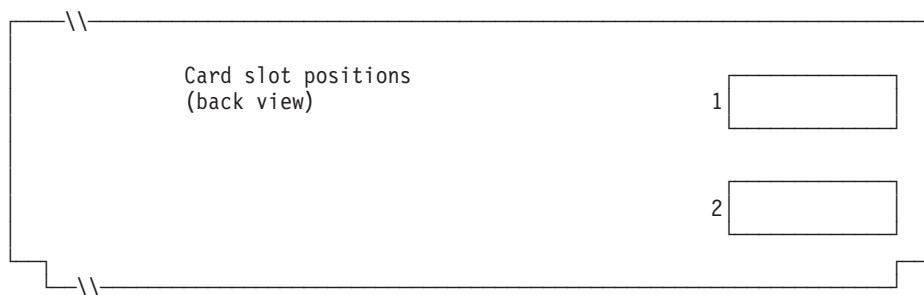

Figure 100. Rear of 4694-1x4/205 Controller/Terminal
4. Mark an X on Figure 100 in each card slot that has a Dual Asynchronous Adapter card installed **for use by terminal applications**. Do not mark an X if the card is to be used by applications other than terminal applications.